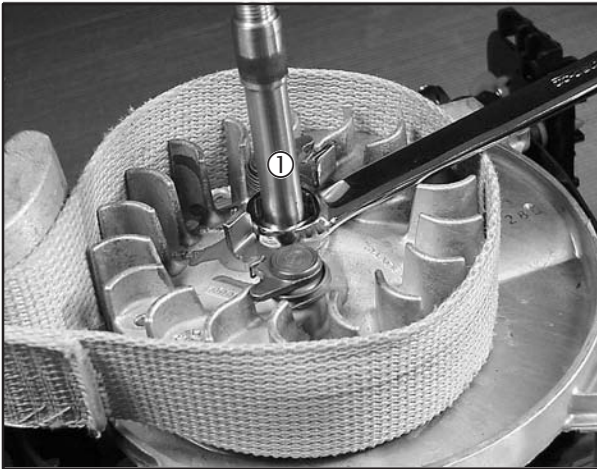

Fig. 23
2. Loosen flywheel nut/crank adapter (1) with 9/16" wrench, Fig. 23. Then remove.